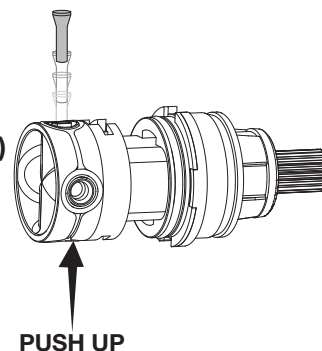

Figure 3.
- Remove CARTRIDGE (1).
- Remove venturi tube by pushing it out. As shown in FIGURE 3.